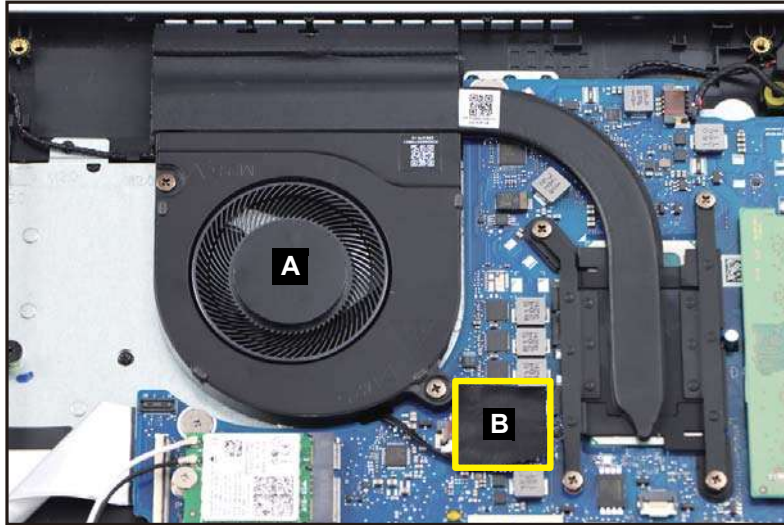

Figure 3-27. Fan Removal
1. Find the fan (A) on the top assembly. Then detach the tape (B) securing the fan cable (Figure 3-27).